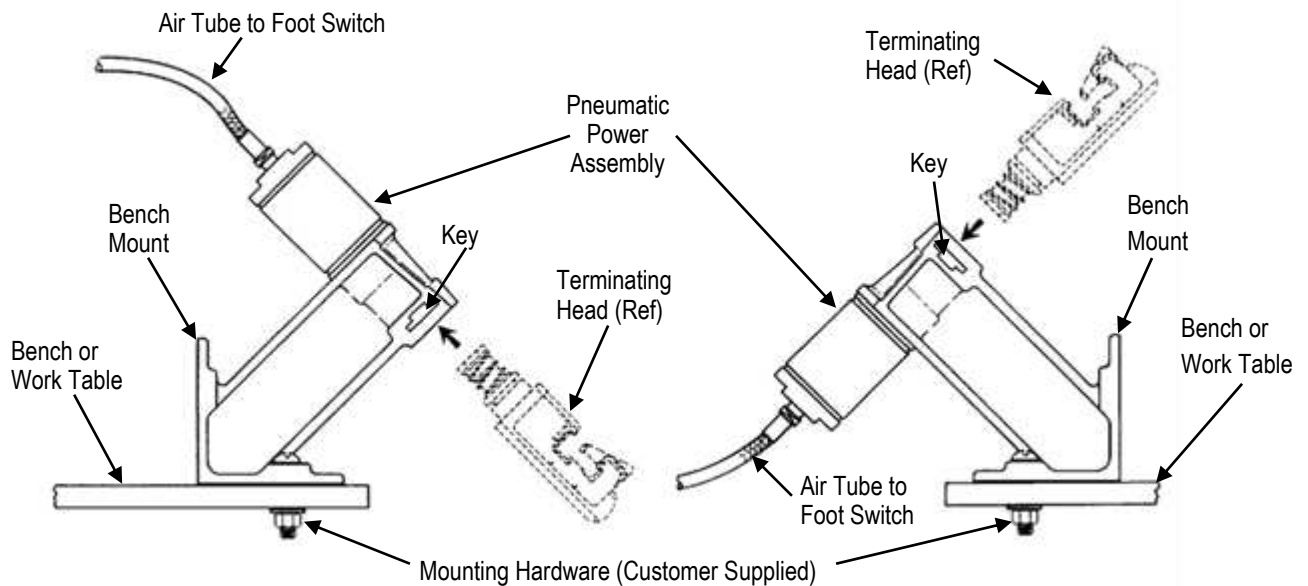
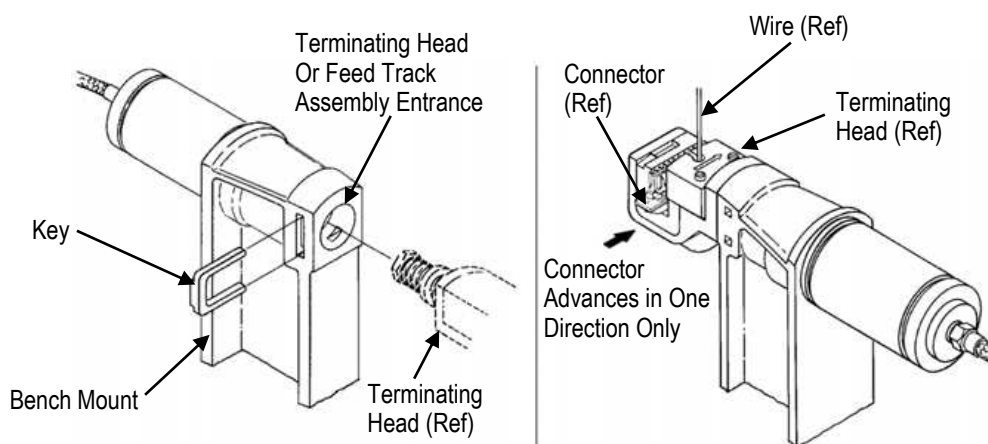

Figure 2
Figure 4
The power bench assembly consists of a bench mount with an attached pneumatic power assembly, a foot switch, and air tubes which connect the foot switch to the power assembly and the air source to the foot switch (see Figure 2).
The bench mount is designed to be installed in either of two positions, as shown in Figure 2. Orientation of the bench mount depends on operator preference and the desired eject direction of terminated connector (refer to Figure 4). Install the bench mount as follows:
3. Insert the terminating head or feed track assembly into the head entrance of the power assembly body until it bottoms (see Figure 4).